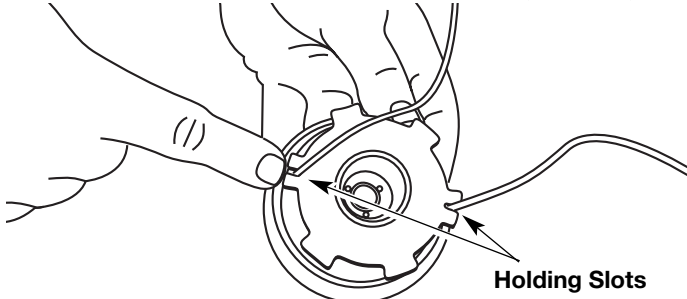

Fig. 17
10. Insert the ends of the line into the two holding slots (Fig. 17).